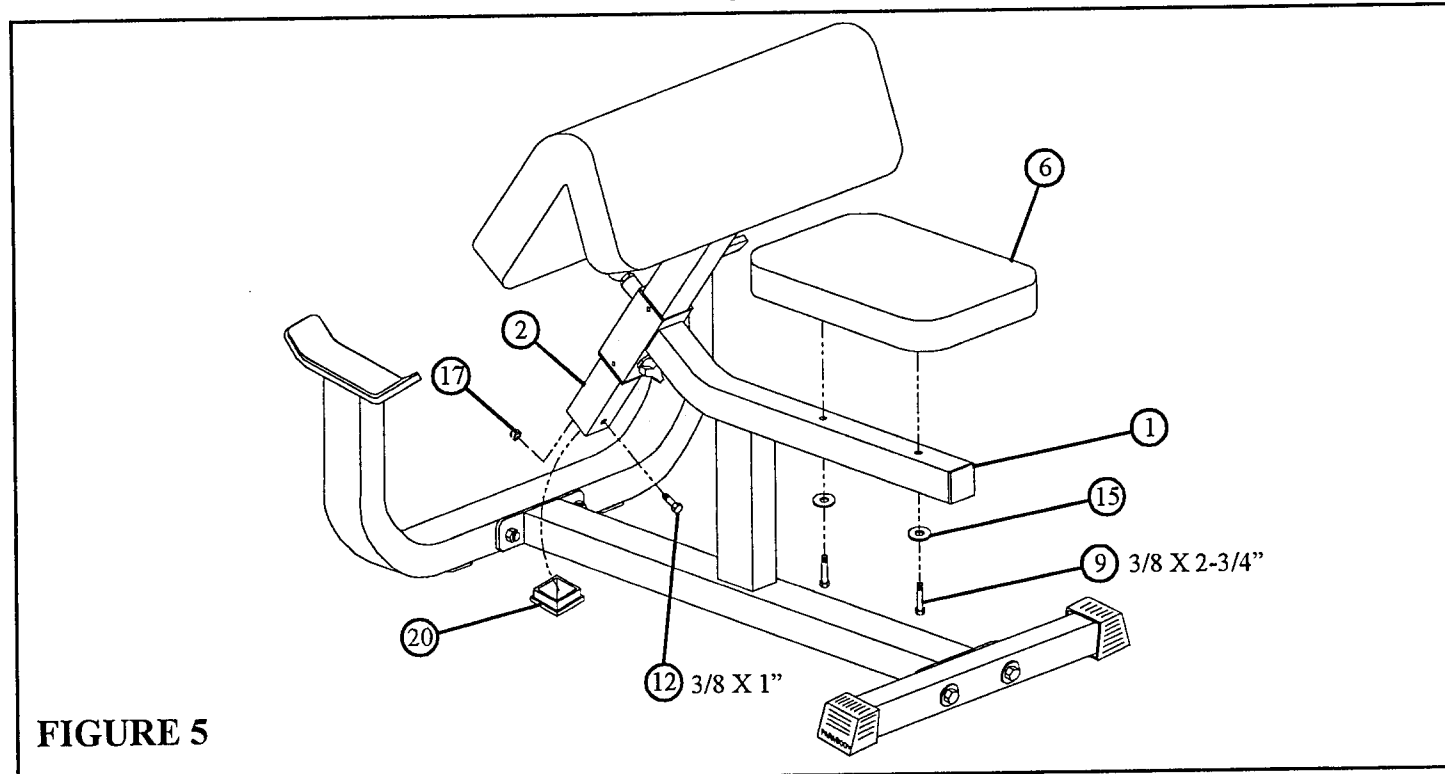

FIGURE 5
- **SECURELY** assemble one 3/8 X 1" BTN HD CAP SCREW (12), and one 3/8" NUT (17) to the bottom hole of the ARMPAD SUPPORT (2) as shown in FIGURE 5.
- Insert one 2" END CAP (20) into the end of the ARMPAD SUPPORT (2) as shown in FIGURE 5.
- **SECURELY** assemble the SEAT PAD (6) to the BENCH FRAME (1) using two 3/8 X 2-3/4" BOLTS (9) and two 3/8" WASHERS (15) as shown in FIGURE 5.
**Thank you for purchasing the PARABODY 808106 ARM CURL. If unsure of proper use of equipment, call your local PARABODY distributor or call the PARABODY customer service department at (800) 328-9714.**